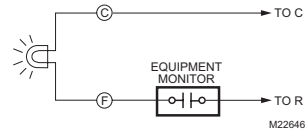

Fig. 20. F terminal switch to R (power) side of system transformer.
- When the F terminal is wired to an equipment monitor, the LED signals when a check or fail signal is sent to the comfort control from the system. See Fig. 20. (This can occur only when the comfort control is not in Em. Ht. mode.)